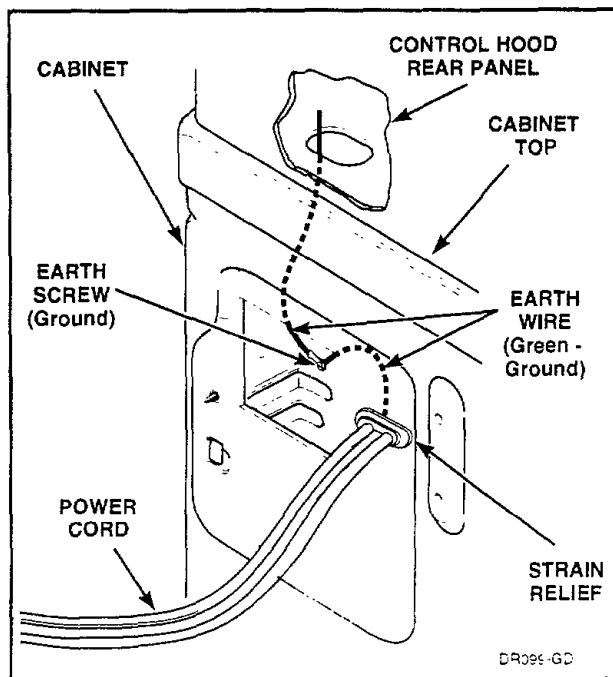

Figure 44
- (1) Remove access plate on rear of cabinet.
- (2) Remove strain relief, *Figure 44*.
- (3) Remove screw holding power cord earth wire (ground) to rear bulkhead, *Figure 44*.
- (4) Disconnect molex plug and remove power cord from rear of dryer cabinet.